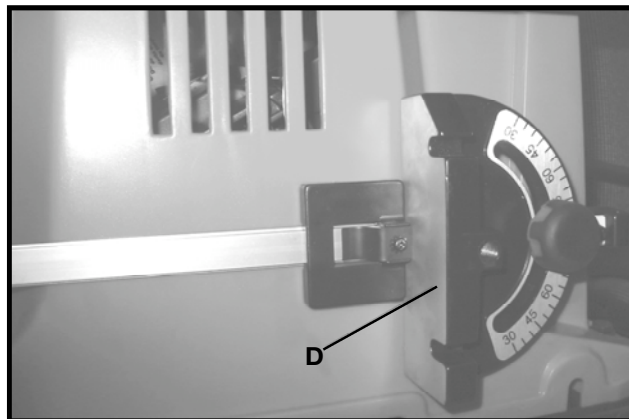

Fig. 28
3. Fig. 28, illustrates the miter gage (D) inserted into the miter gage holder when not in use.